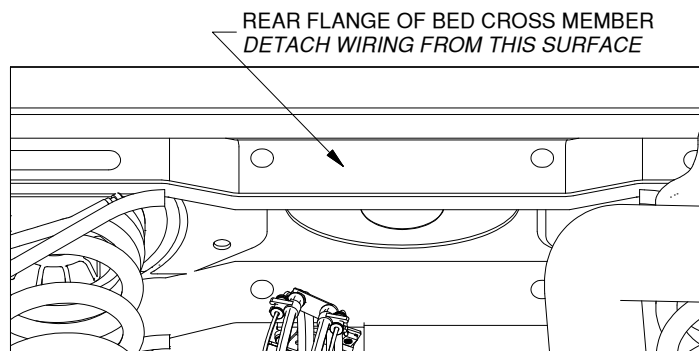

Figure B1: View looking under truck bed towards cab.
1. **Remove plastic fasteners.** Before installing the center section, pull out any plastic fasteners attached to the rear flange of the frame cross member in the area where the center will install. These will be secured in a later step, see Figure B1.